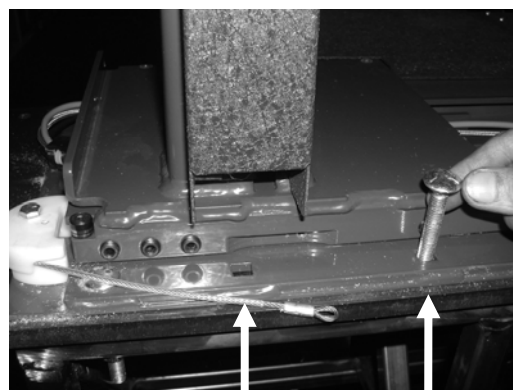

FIGURE 4
3. Refer to **FIGURE 4**. Remove two of the mounting bolts attaching the baseplate to the vehicle.